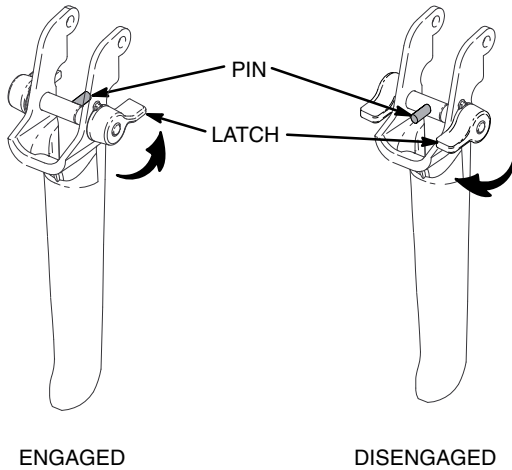

Fig. 3 _____ 05964
1. To engage the gun trigger safety, turn the latch counterclockwise toward the handle until the detent of the latch locks on and the pin is at a right angle with the gun body. See Fig. 3.
3. **Turn the pressure knob (64) to the minimum setting.**
4. **Disengage the gun trigger safety.** See Fig. 3, page 7.